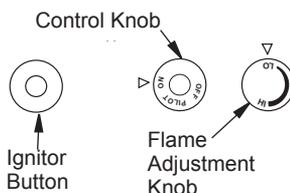

Figure 53 - Control Knob and Ignitor Button Location
3. Press in and turn control knob clockwise  to the OFF position (see Figure 53).
5. Wait five (5) minutes to clear out any gas. Then smell for gas, including near the floor. If you smell gas, STOP! Follow B in the safety information, page 26. If you don't smell gas, go to the next step.
6. Press in and turn control knob counterclockwise  to the PILOT position. Press in control knob for five (5) seconds (see Figure 53, page 27).